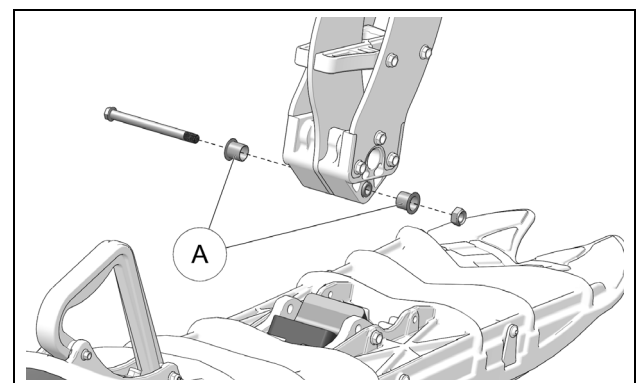

Figure 71
Verify play and extent of wear on the nylon bushings (A) guiding the assembly bolt that secures the ski to the spindle. If there is abnormal play in the bushings, replace them. See Figure 71.